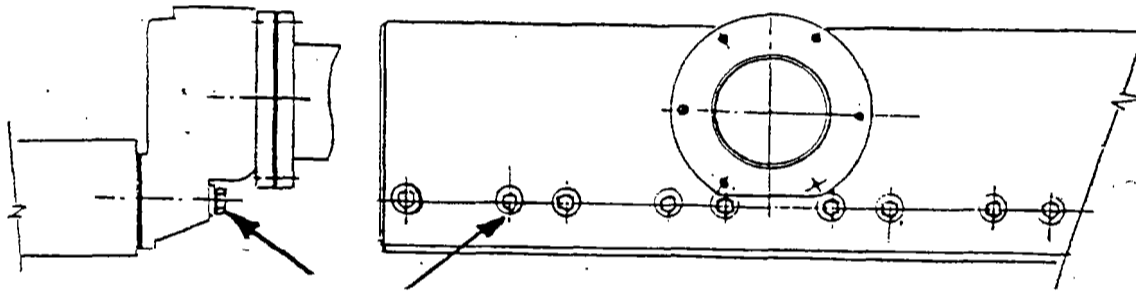

Figure 7. Water-Cooled Exhaust Manifold
- (WEEKLY) 12. ( ) The fasteners securing the water-cooled exhaust manifold to the engine are in place and tight. The water-cooled exhaust manifold is illustrated in Figure 7.